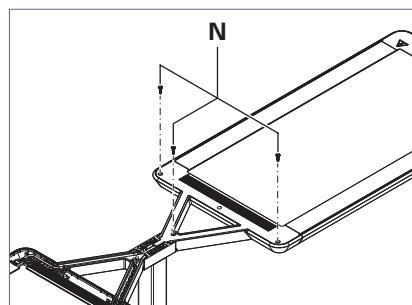

Fig. 20: Screwing the cover tight.
- ▶ Screw the cover tight using the three screws **N**, see Fig. 20.